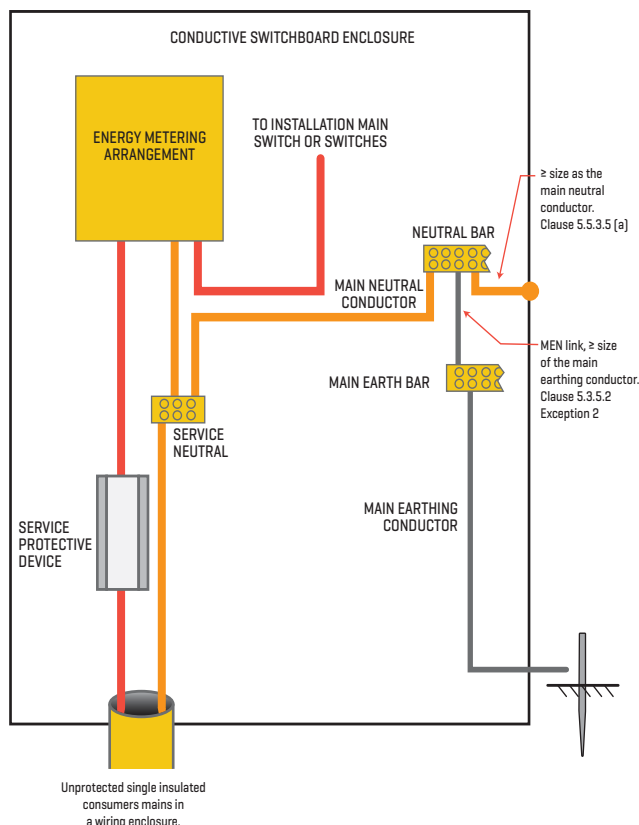

Figure 5.6(A): Earthing arrangement for conductive switchboard enclosures associated with unprotected consumer mains [clause 5.5.3.5(a)].
- * Under *Unprotected consumer mains* Figures 5.6 (A), (B) and (C) are added. Also, a second sentence and note are added immediately under the heading with further detail here and with references to the figures throughout. The original notes are now also headed *Exception* but the intent of these has not changed. [p296-300]